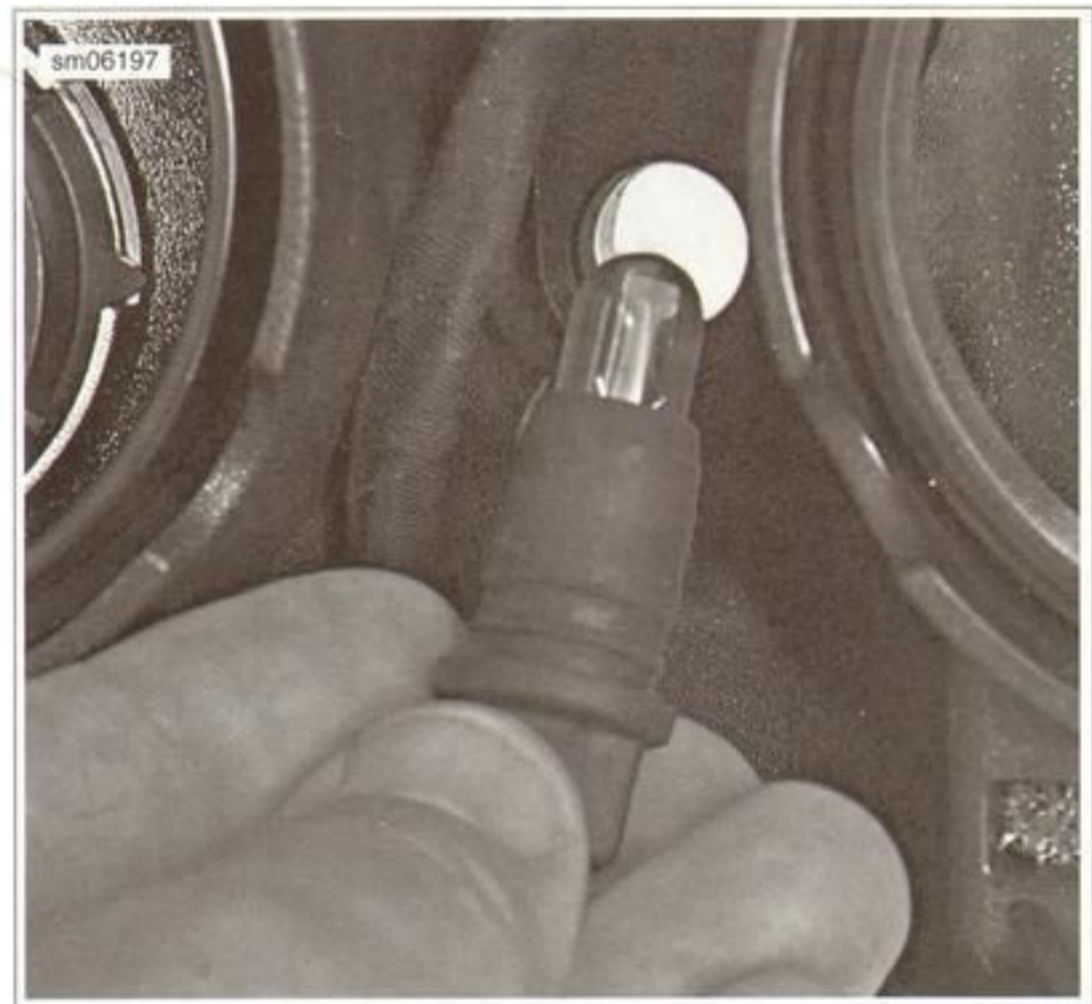

Figure 7-56. Marker Lamp
1. See Figure 7-56. Pull the marker lamp out of the headlamp shell.